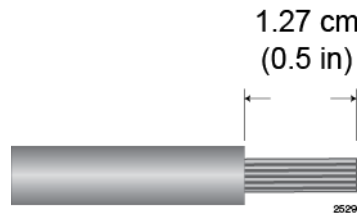

Figure 97. Stripping the Stranded Grounding Wire
1. Prepare an adequate length of stranded 10 AWG grounding wire by stripping it as shown in Figure 97.